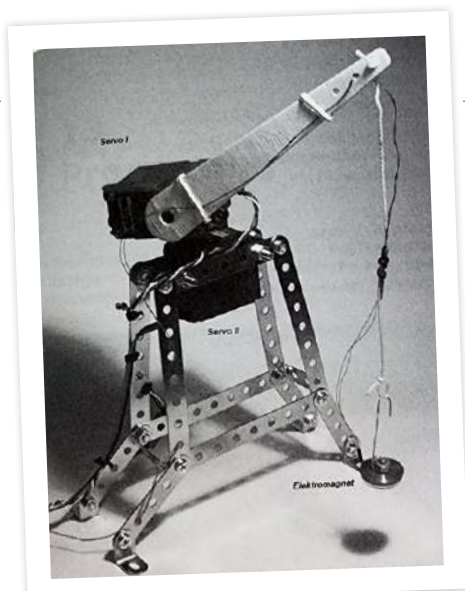

Figure 3: How Dr. Spanner prototypes things. (Source: *Arduino: Circuits and Projects Guide*, (Elektor, 2013))
*Projects Guide* (Elektor, 2013). The book even gave me a taste of putting together some simple mechanical structures (**Figure 3**), so I'm happy to *Meccanotype* my model. Later, we can talk about laser cutting some custom parts.